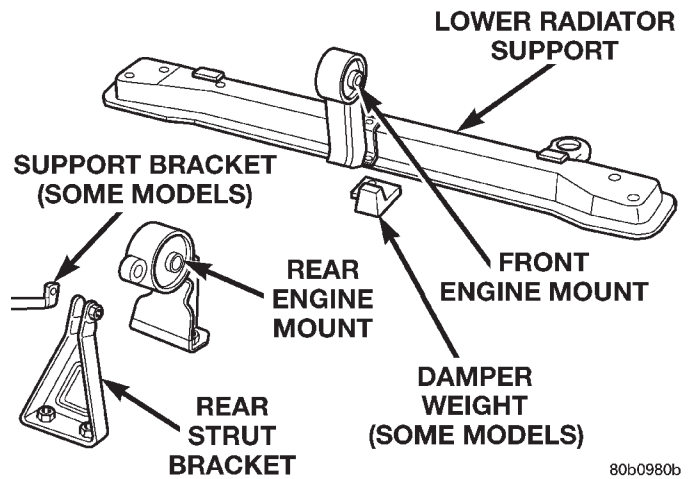

Fig. 11 Engine Mounting—Front and Rear
- (3) Remove rear strut bracket and brace (Fig. 11).
(2) Install bolts attaching rear mount to front suspension crossmember. Tighten bolts to 61 N·m (45 ft. lbs.).
(3) Install rear strut and support brackets (Fig. 11). Tighten bolts to the following torque values: